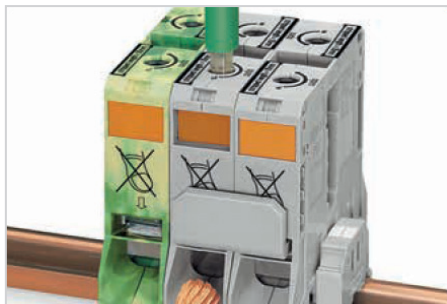

Fig.9: Opening of the “Power Cage Clamp”
- Use the tool 285-172 from WAGO to open the terminal according to fig.9